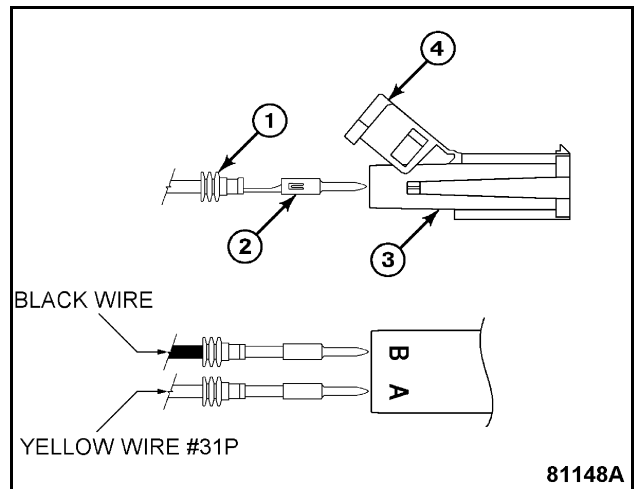

Figure 3 Installing Packard Weatherpack connector
6. Install Packard Weatherpack connector (3, Figure 3) per instructions following:
7. Place 1209477H1 seal (1) on end of insulation. Use Packard Weatherpack crimper to apply 1209435H1 pin (2) to wire.
8. Push pin into 1209473H1 shroud (3) from the rear until locked in place.
9. Firmly seat seals (1) using Packard cable seal insert tool and close rear of shroud (4) locking into place.